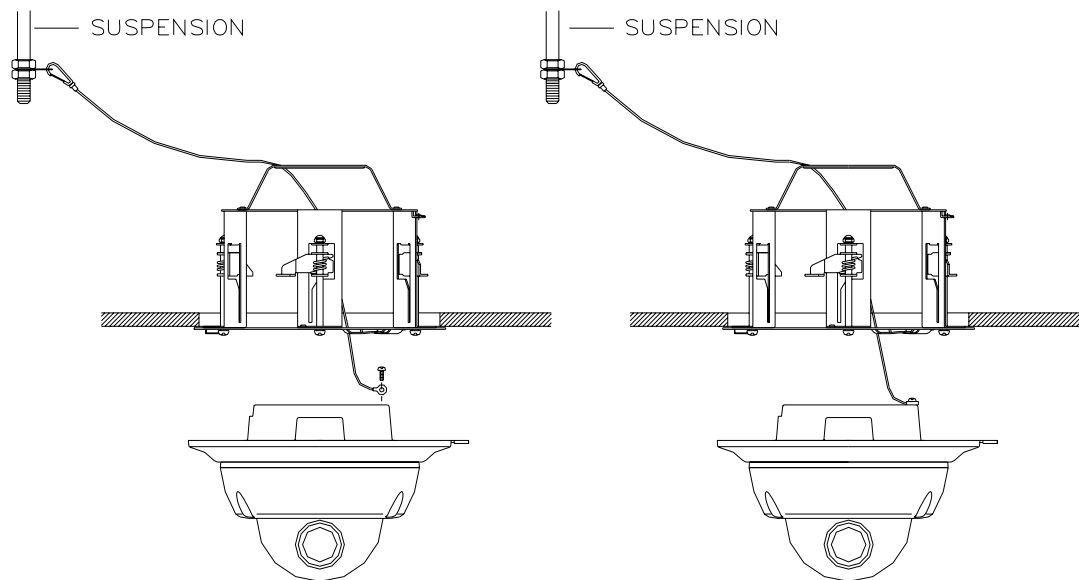

FIG.9
4. Hook the safety wire on the suspension and connect it to camera (FIG.9)